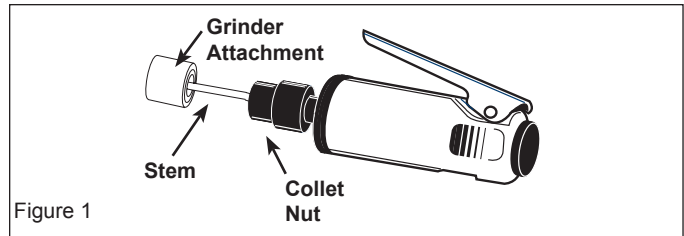

Figure 1
1. Insert stem of grinder attachment into collet opening (See Figure 1). Make sure stem is fully inserted.